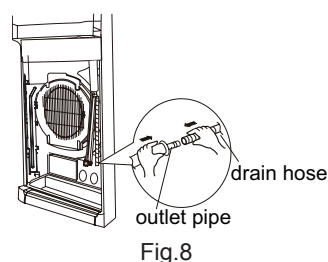

Fig.8
1. Connect the drain hose to the outlet pipe of indoor unit. (As show in Fig.8)
2. Bind the joint with tape. (As show in Fig.8)